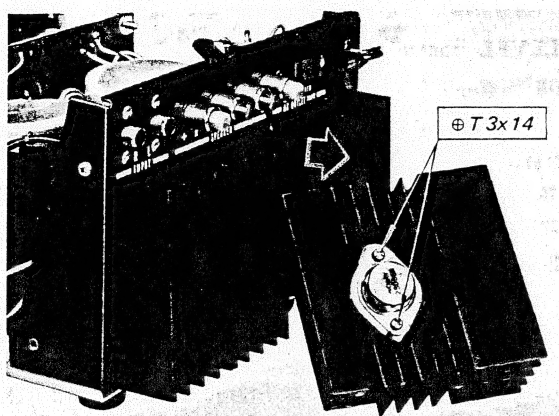

Fig. 2-8 Power transistor replacement
4. Carefully draw back the heat sink, and then remove the two screws ($\oplus T 3 \times 14$) securing the power transistor and power transistor socket to the heat sink. See Fig. 2-8.